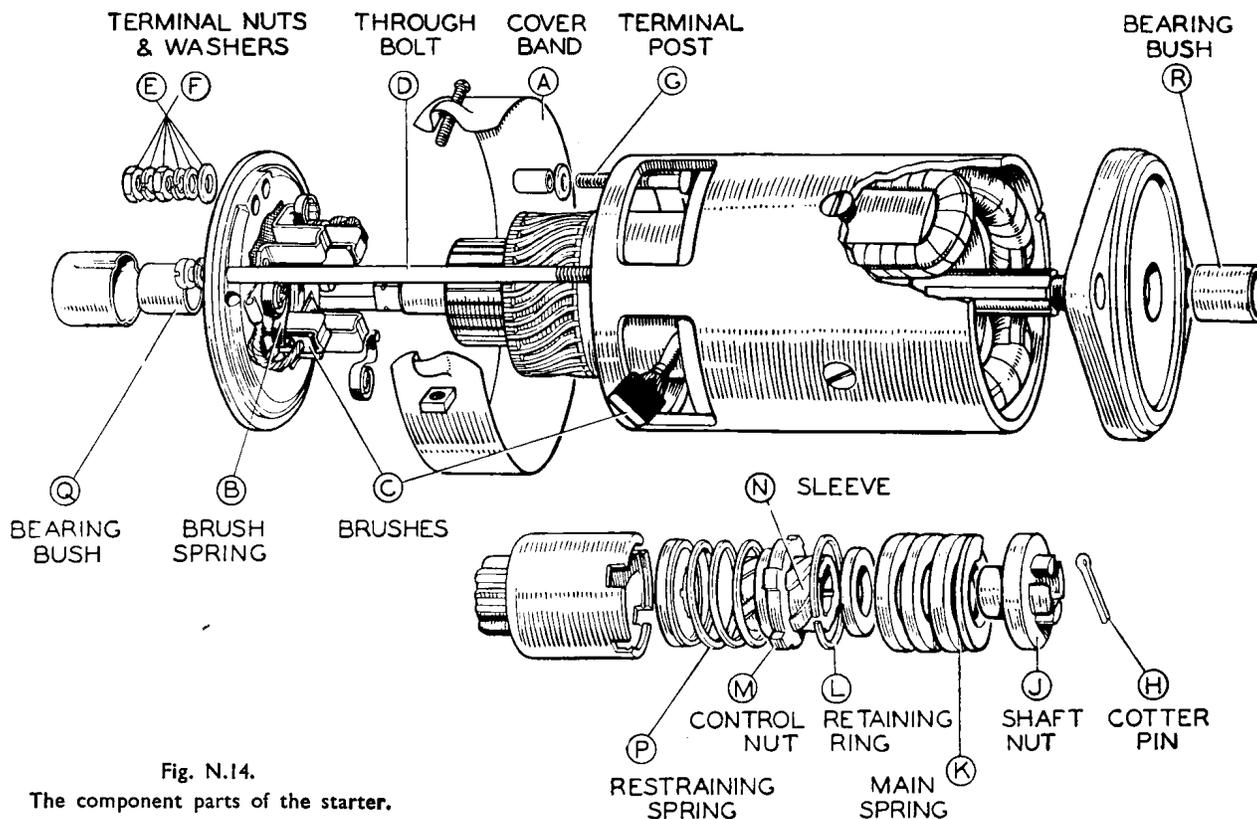

Fig. N.14.
- Remove the split pin "H" (Fig. N.14) from the shaft nut at the end of the starter drive. Hold the squared end of the starter shaft at the commutator end by means of a spanner and unscrew the shaft nut "J."
- Lift off the main spring "K" (Fig. N.14) and remove the retaining ring "L."